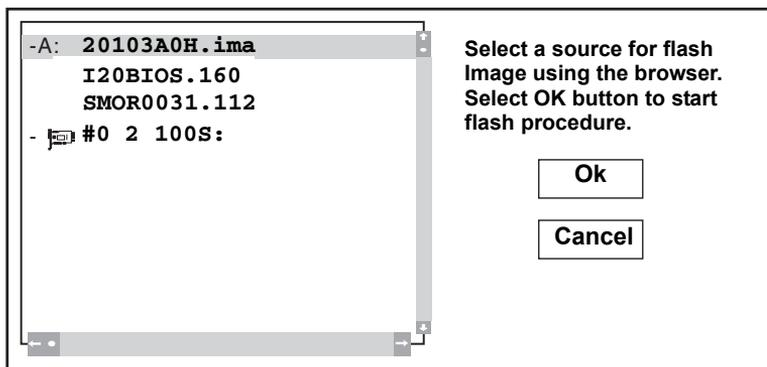

Figure 2-13 Source File Browser Window
- 4 Select **Action > Flash HBA**. The Source File Browser window appears, as shown in Figure 2-13.